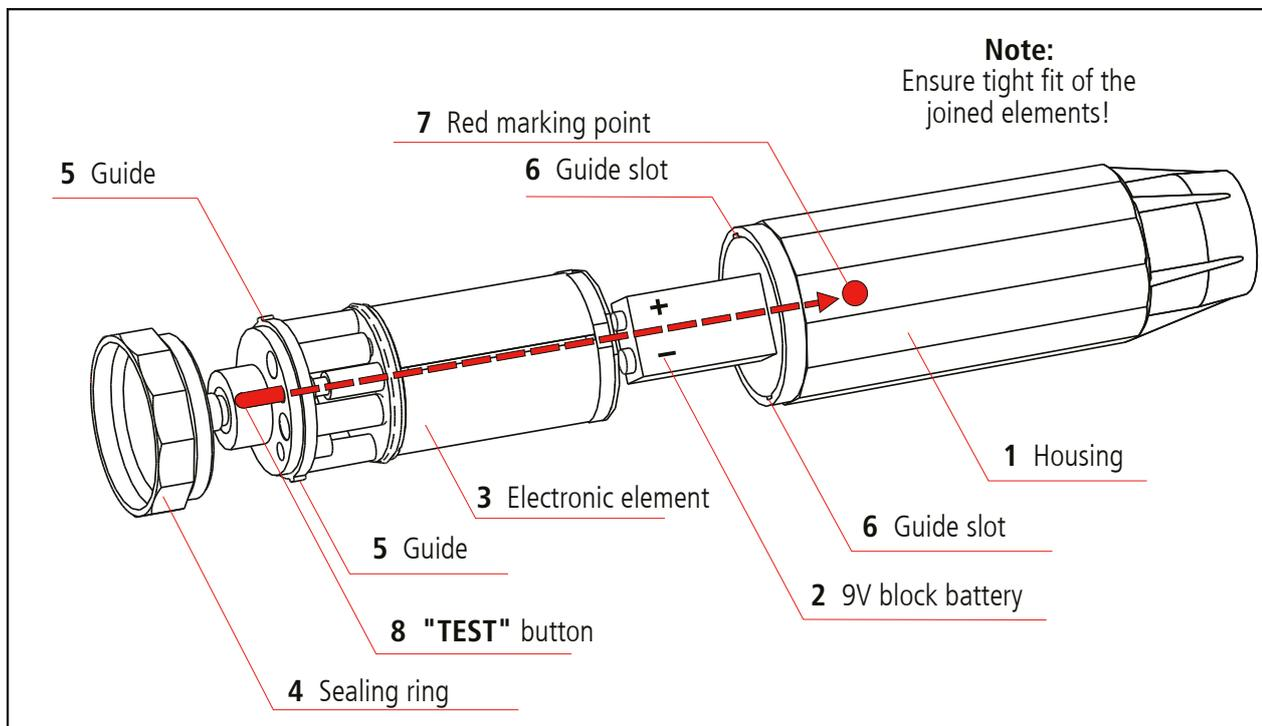

Fig. 9.1
9.1 Battery replacement (see Fig. 9.1)
9.2 Open the housing (1) by turning the sealing ring (4) on the lower end of the indicator counterclockwise (the insulating stick does not have to be removed) (see Fig. 9.1).
9.3 Pull the electronic element (3) out of the housing (see Fig. 9.1).
- 9.6 Re-assemble in reverse order. When inserting the electronic element **(3)** ensure that the red **"TEST"** button **(8)** and the red marking point **(7)** are in line (see arrow in Fig. 9.1). Both guides **(5)** must engage with the guide slots **(6)**. After inserting the electronic element **(3)**, the sealing ring **(4)** must be fully screwed to the housing **(1)** (see Fig. 9.1, page 16).
The assembly of the electronic element and the housing re-establishes the electronic connection between the electronics and the test prod (see Fig. 9.1, page 16) (connection socket in the upper end of the electronic element and contact pin in the housing bottom). Therefore assemble the elements carefully without using excessive force.